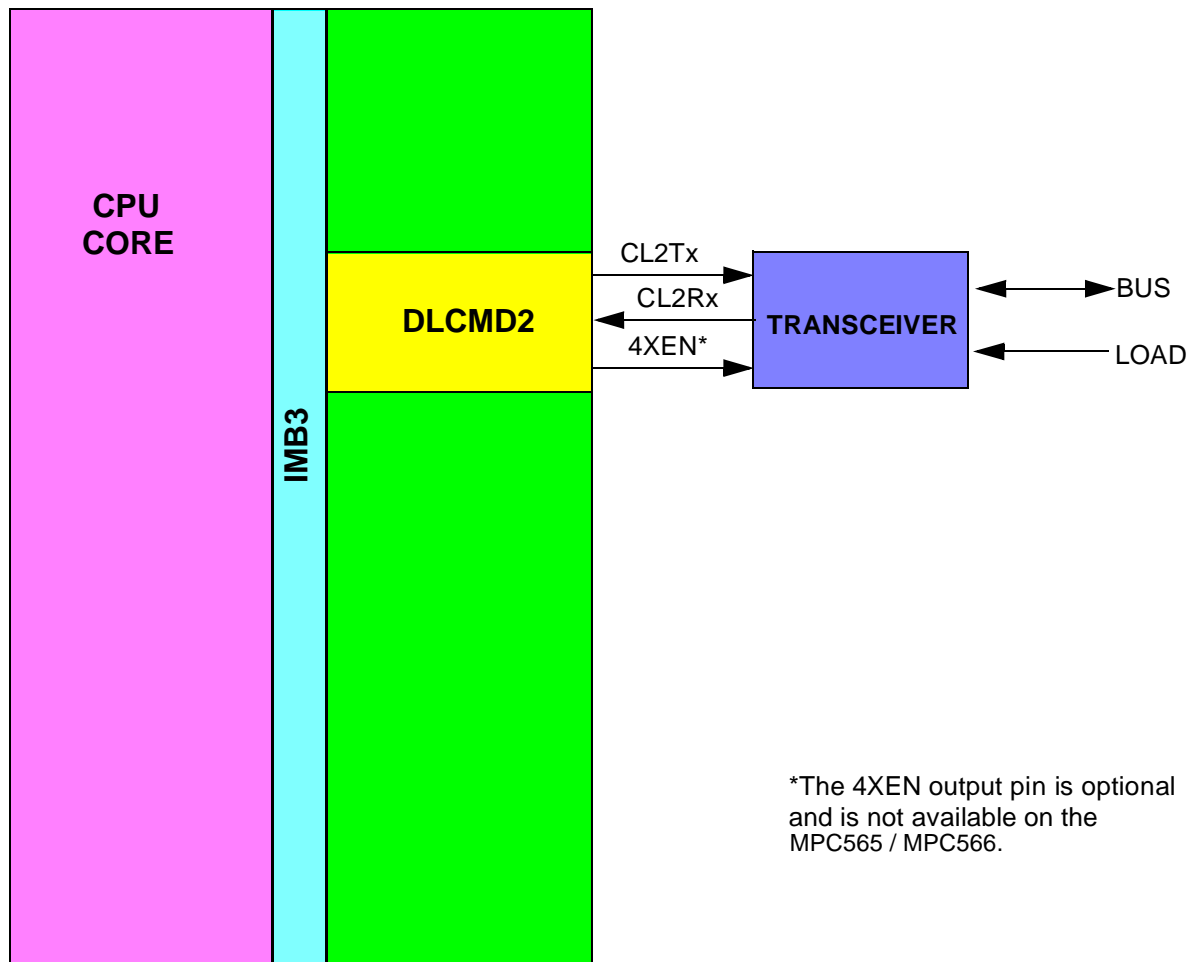

Figure 15-11 Support For External Transceiver
As shown in Figure 15-11, the DLCMD2 will be designed to use an external (IC) transceiver. Along with the CL2Tx and CL2Rx signals, a 4XEN signal will be provided at the periphery of the DLCMD2 to disable transceiver waveshaping during DLCMD2 4X mode.